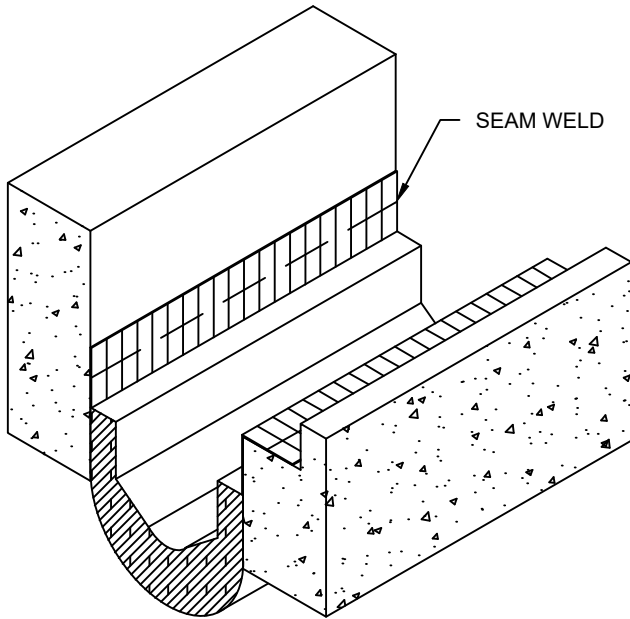
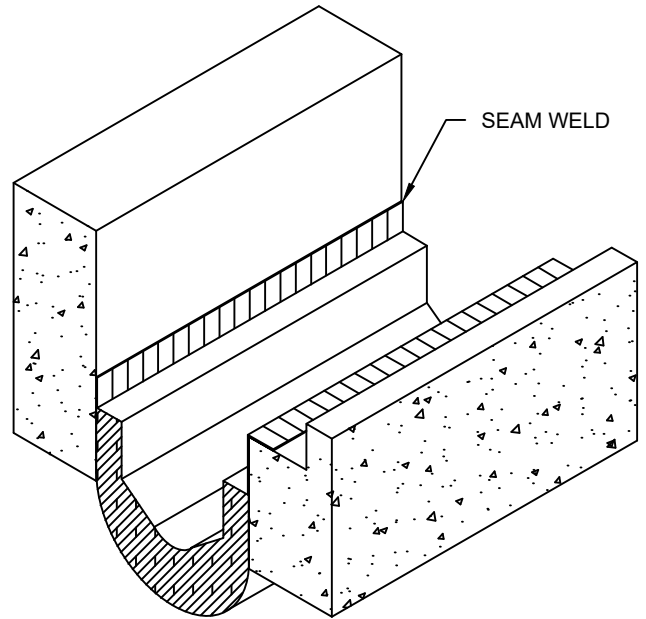

Fig. B2
Fig. C2
After completing material preparation described on page 2 and as shown in Fig. A, place the fire barrier in the expansion joint. The foil flanges can be folded along the seam weld line onto the exposed face of the floor slab. The foil flange can be run up the wall on the other side of the joint (See Fig. B2). With the Low Profile (LP) galvanized flange configuration on the wall side, the foil flange can be folded over itself before the galvanized flange is fastened into place (See Fig. C2).